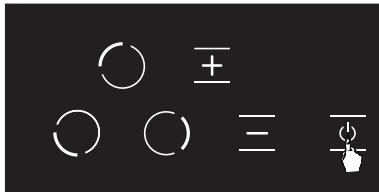

Figure 15
- You may turn the stove off by pressing the **⊕** button. (See Fig. 15)